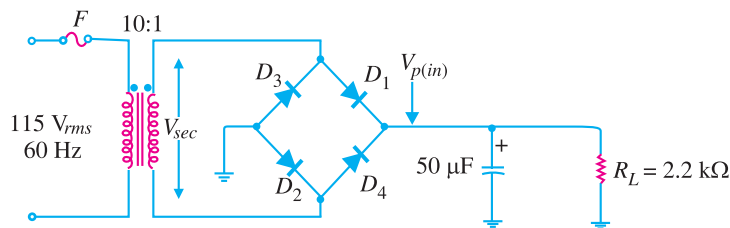

Fig. 6.44
**Example 6.23.** For the circuit shown in Fig. 6.44, find the output d.c. voltage.